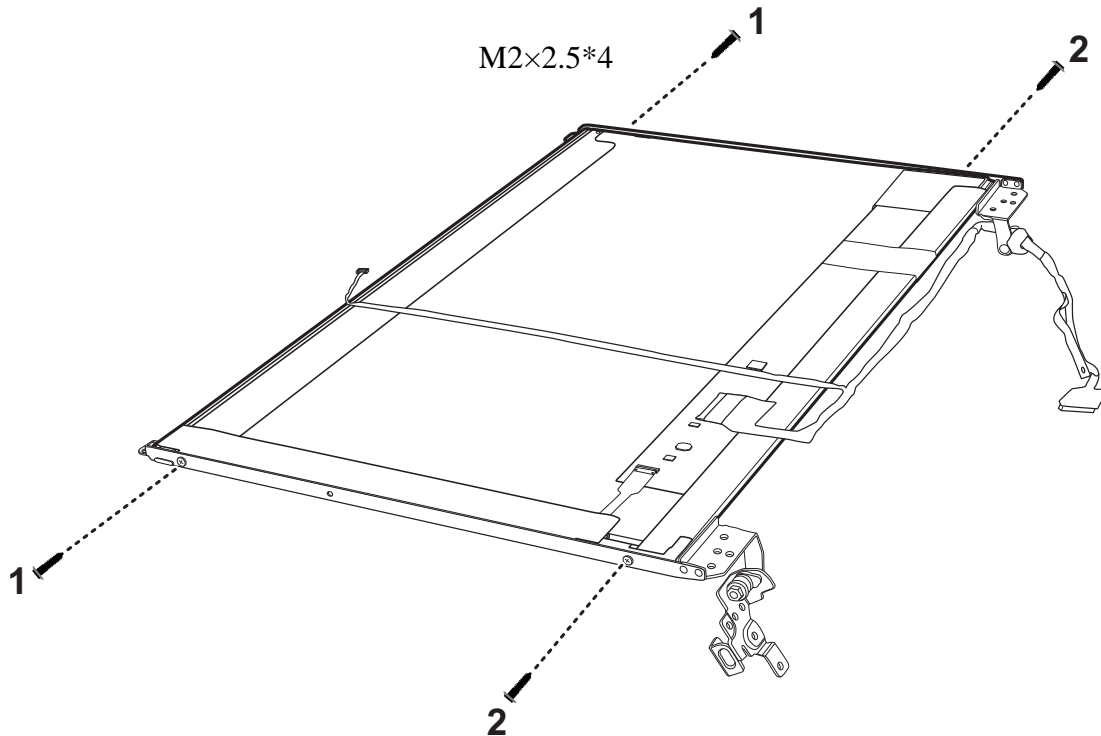

Figure 4.45 Installing the LCD hinges
Install the LCD panel according to the following procedures and Figure 4.45.
2. Align the LCD hinges with the LCD panel and secure them with four M2x2.5 screws, according to the sequence indicated in Figure 4.45.